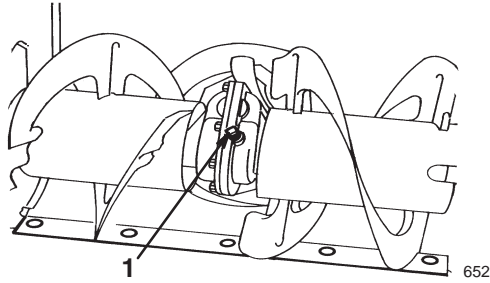

Figure 19
- Clean the area around the pipe plug (Fig. 19).
- Remove the pipe plug from the gearbox (Fig. 19).